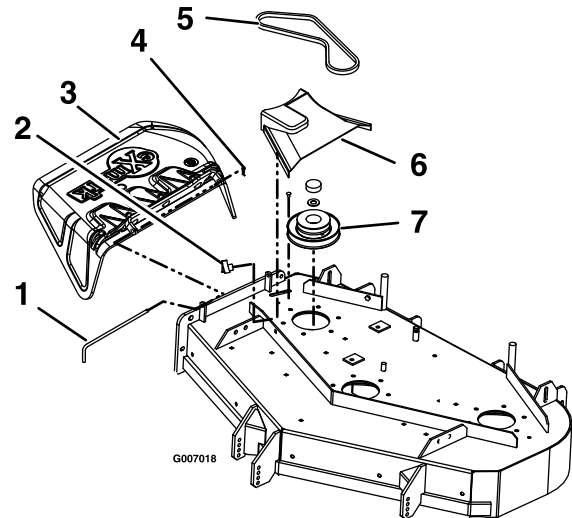

Figure 6
3. Remove the belt cover by loosening the knobs (see Figure 6).